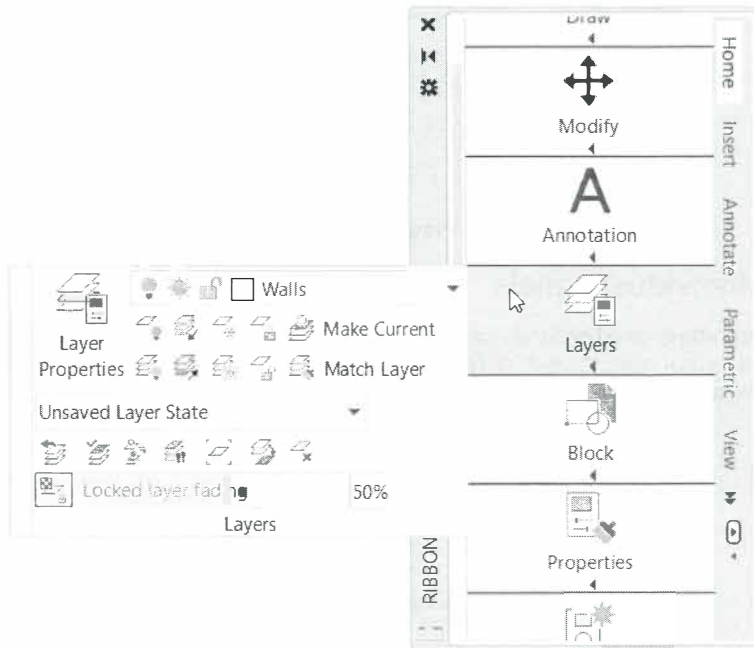

Figure 1–13
1. Right-click in an empty space in the ribbon and select **Undock**, as shown in Figure 1–14.